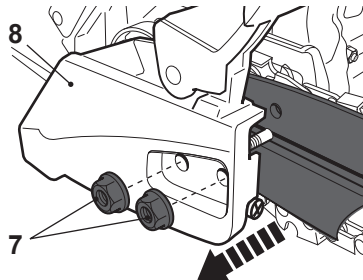

Fig. 6
- > Use the combination spanner (32) to loosen the retaining nuts (7) from the cover (8) and remove them together with the cover (Fig. 6).
- > Remove the guide bar (4) and saw chain (3) from the drive sprocket (22) and support pins (19) (Fig. 6).
- > Check the area under the cover (8), around the clutch (21), drive sprocket (22) and support pins (19) and ensure that they are free of any damage.